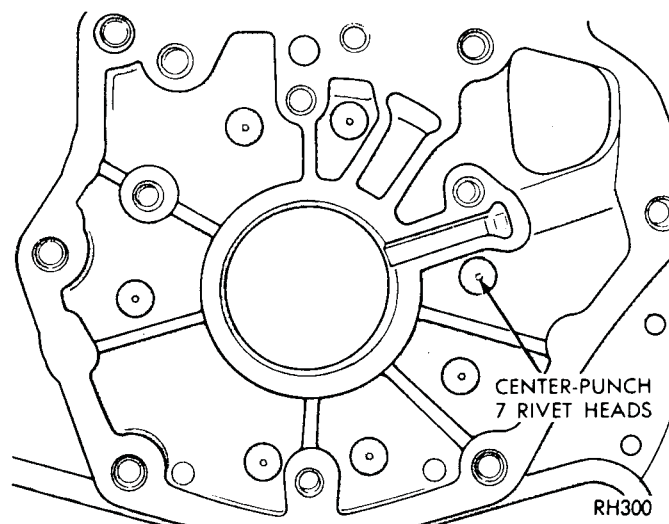

Fig. 36—Center Punch Rivet Heads (A-904T and A-999)
(1) Remove four bolts securing output shaft support to rear of the transmission case. Tap support rearward out of the case with a soft-faced hammer.
(2) Center punch the rivets exactly in center of each rivet head (Fig. 36).
(3) Drill through each rivet head with a 3/8 inch drill. Be careful not to drill into the transmission case.